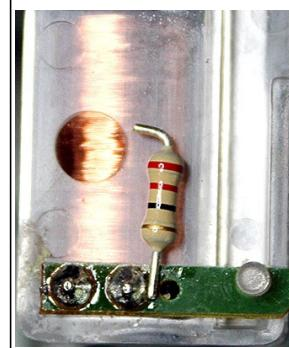

Fig. 8: Resistor ready to solder.
- Orient the movement as shown in with the motor terminals closest to you. Lay the resistor on the clear housing so the bent lead is near the hole on the housing, and bends toward the left. See Fig. 8.